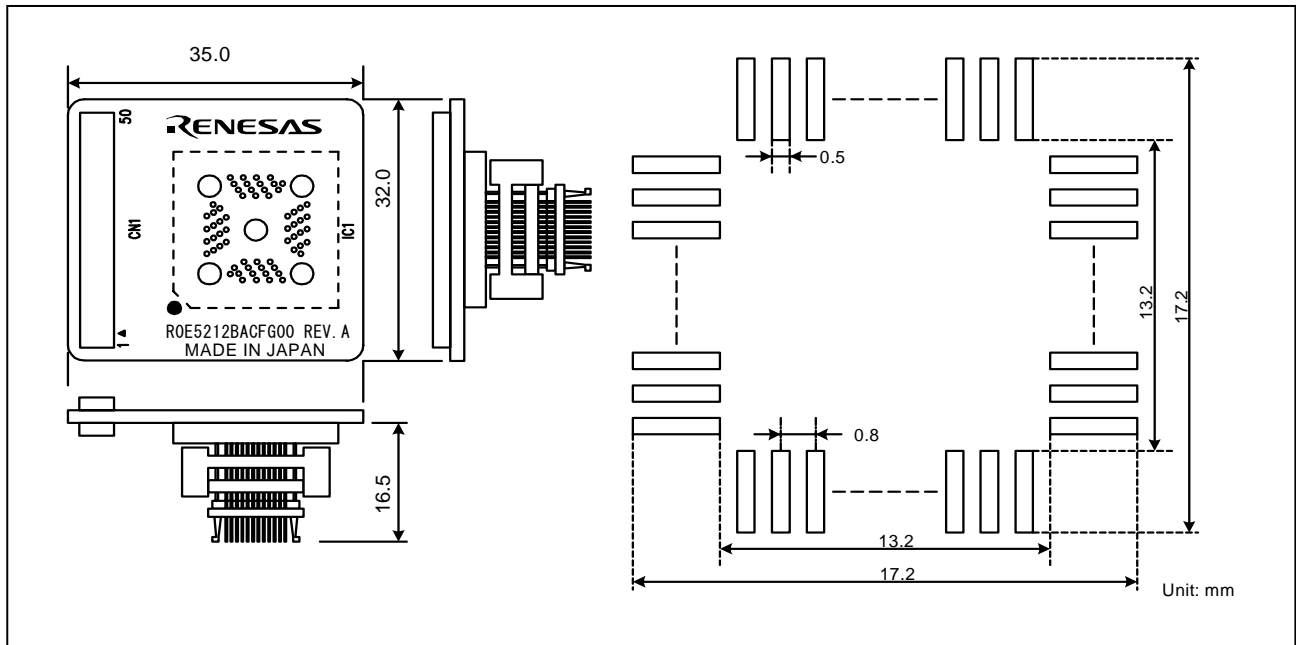

Figure 4 External dimensions and a sample foot pattern of the R0E5212BACFG00
6. External Dimensions and a Sample Foot Pattern (See Figure 4)